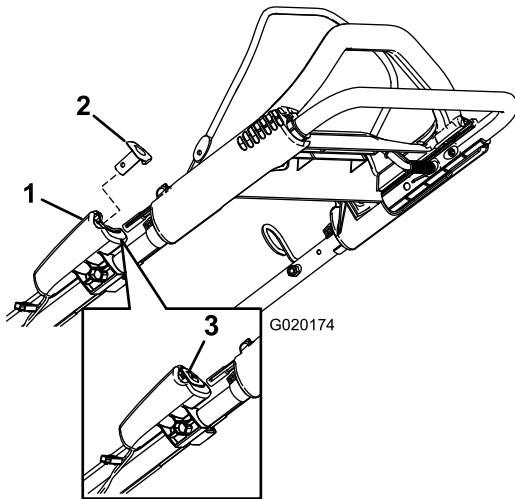

Figure 17
2. Push the electric-start button until the engine starts (Figure 17).
Note: If the electric-start button has been removed, insert it in the electric starter; refer to Figure 17.